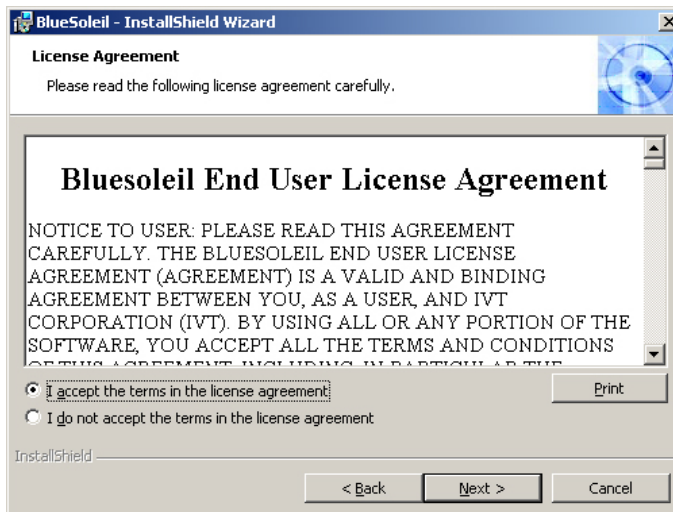

Figure 7-36: License Agreement
Step 3: The license agreement shown in **Figure 7-36** appears. Agree to the license by selecting “I accept the terms in the license agreement”.